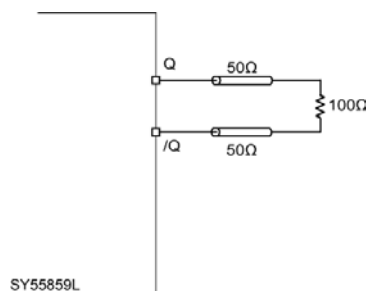

Figure 6. Output Interface
1. AC characteristics are guaranteed by design and characterization. Tested using environment of Figure 6, 50 Ω equivalent load.